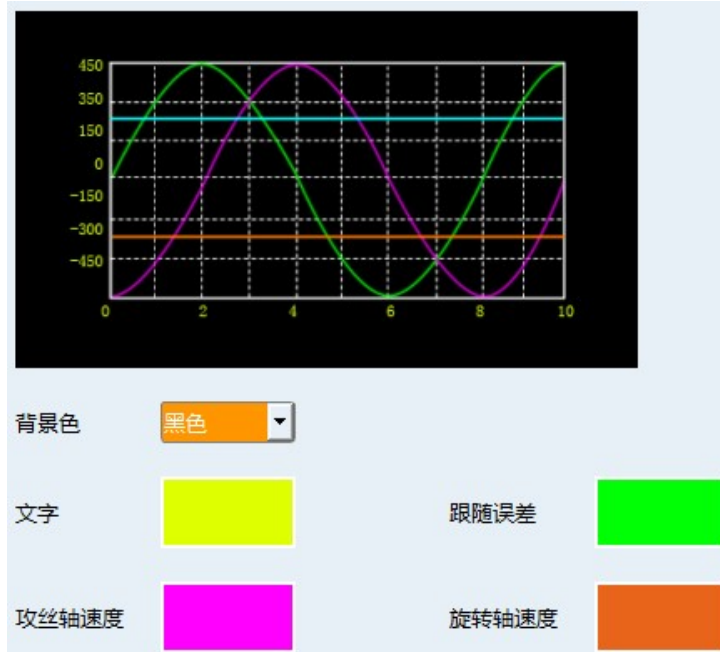

Fig. 5
(2) The "Color setup" interface is used to configure and display line color for ease of observation, as shown in Fig. 5: